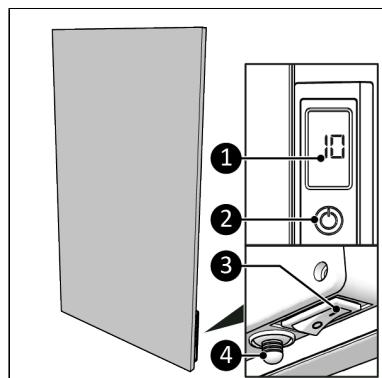

Figure 29.
1. Set the ON/OFF switch to the ON position (Figure 29, pos. 3).
2. Press the ON/OFF button on the control panel (Figure 29, pos. 2) or on the remote control.
3. The display (Figure 29, pos. 1) will first show the set temperature for 3 seconds followed by the ambient temperature.